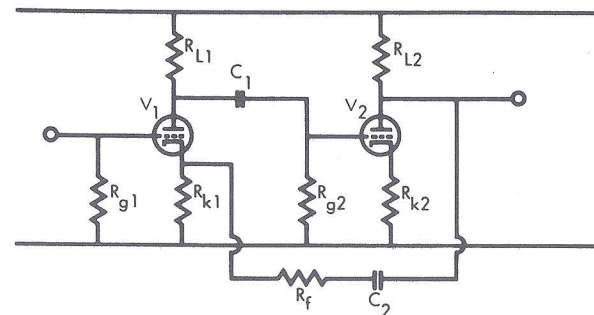

Figure 11c
a. As a sample problem, the response of a simple two stage amplifier will be used. The circuit to be considered is shown in Fig. 11c.
$A = |A|K$. Here A is the product of the scalar value $|A|$ (since all the reactive values are assumed lumped in the coupling system the tube gain is only a magnitude) and the vector K . This method can be carried out completely around the loop of a system whether closed or open. If the scalar value is an amplifier, its value will be greater than unity and if a loss, less than unity. For the circuit in Fig. 11c as we start at the grid of V_1 , through V_2 and then by the way of C_2 and R_f to the cathode of V_1 the two values of gain are $A_0 = 1000$. β_0 is determined by R_f and R_{K1} and the two vector values of the coupling systems, C_1 , R_{C2} and C_2 , R_f . For the sake of simplicity call the coupling systems K_1 and K_2 . From this the gain $A = A_0 K_1 / \theta_1$ and $\beta = \beta_0 K_2 / \theta_2$ and $AB = A_0 \beta_0 K_1 K_2 / (\theta_1 + \theta_2)$. Using this notation we can write the feedback equation: